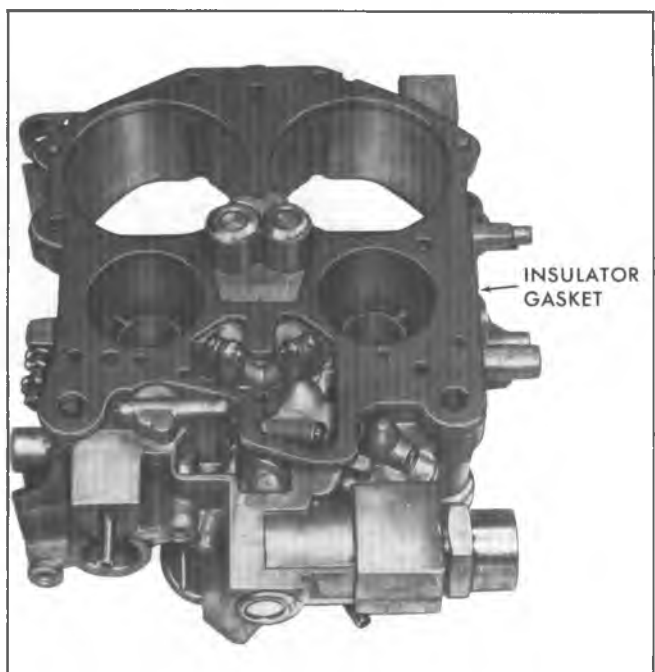

Fig. 19MQ-Removing Insulator Gasket
5. Remove throttle body to bowl insulator gasket (Fig. 19MQ).